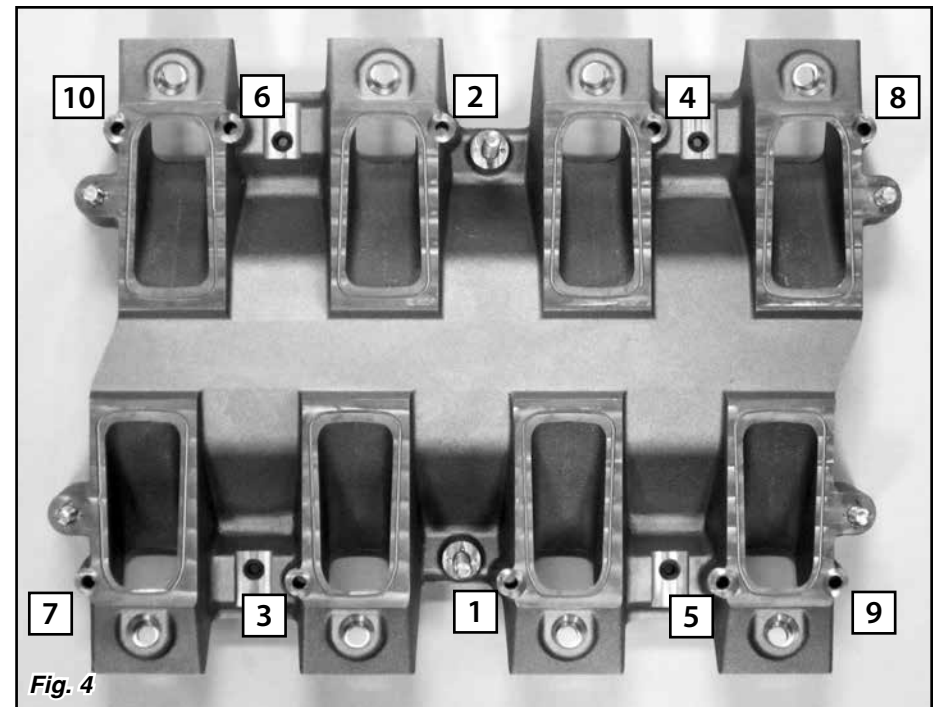

Fig. 4
Step 3: Apply a drop or two of engine oil to the threads of the lower manifold mounting bolts. Install the mounting bolts and washers through the lower manifold and thread them into the cylinder heads. Following the tightening sequence diagram in **Fig. 4**, snug the bolts down lightly, just until the O-rings are slightly compressed.
Step 4: Torque the lower manifold bolts in two steps. Following the sequence in **Fig. 4**, tighten all of the mounting bolts to 50 lb.-in. (4.2 lb.-ft.). Then, follow the sequence in **Fig. 4** again to tighten the bolts to 106 lb.-in. (8.8 lb.-ft.).